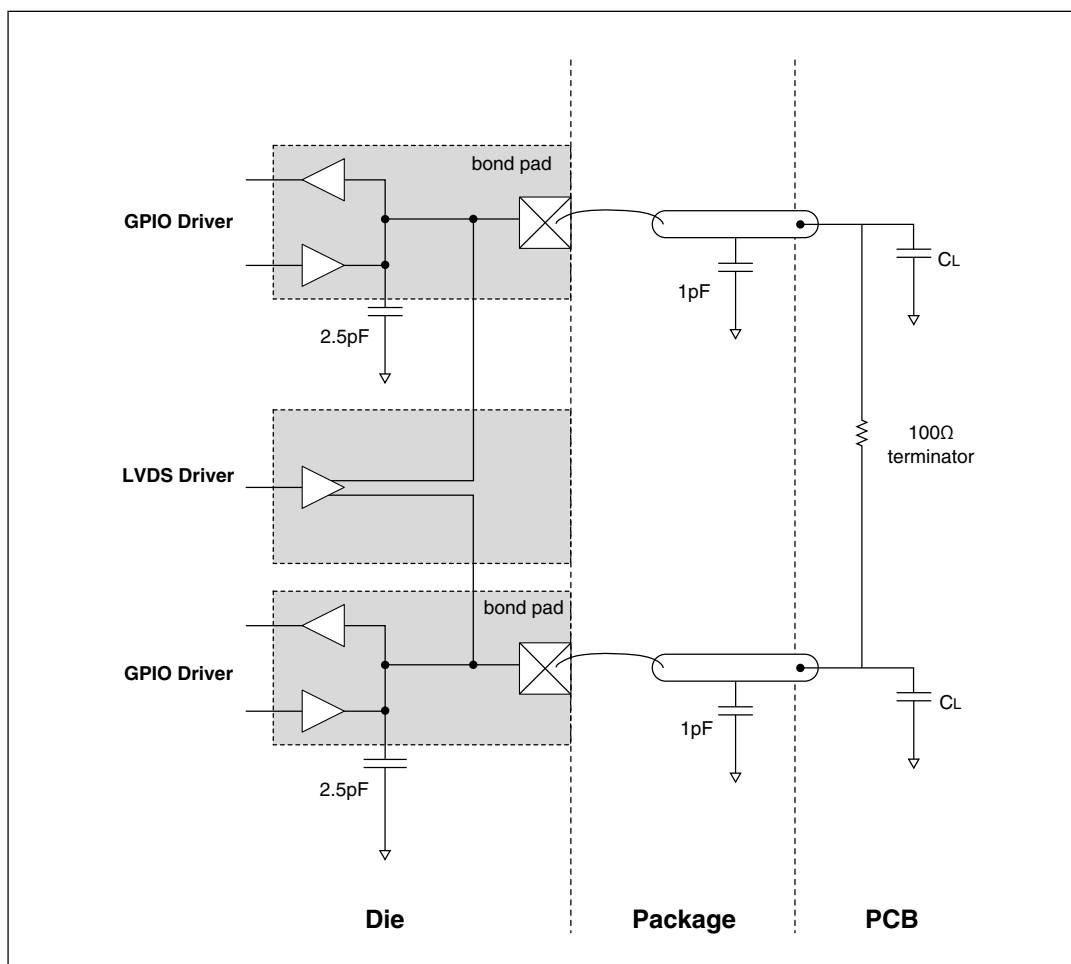

Figure 11. LVDS pad external load diagram
11. Total internal capacitance including receiver and termination, co-bonded GPIO pads, and package contributions. For bare die devices, subtract the package value given in Figure 11.